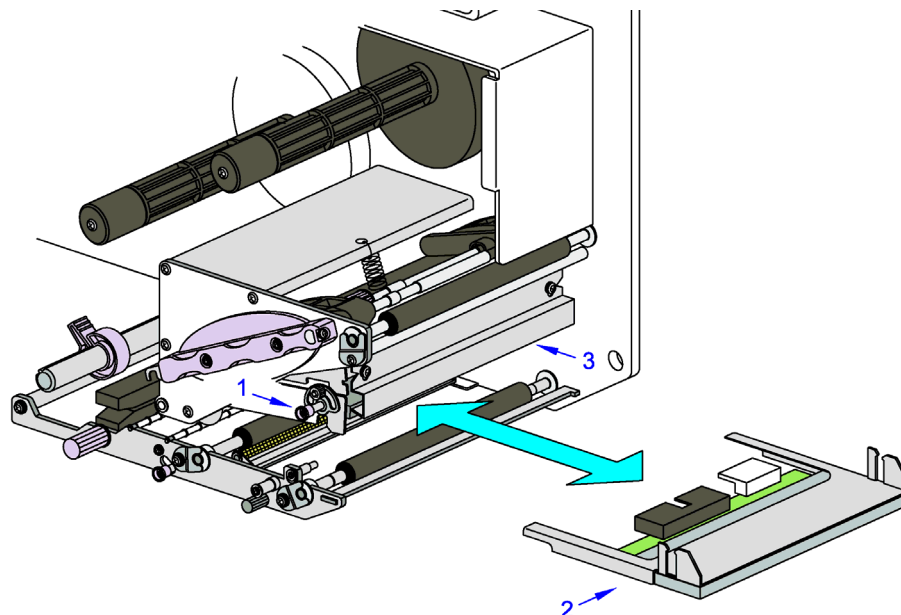

Figure 6-2, Print Head Replacement
3. Pull outward on print head release knob (1, Figure 6-2) to release defective print head (2) from print assembly (3). Disconnect the two wiring harnesses.
4. Reconnect two wiring harnesses (not shown) to replacement print head (2).
5. Pull and hold outward on release knob (1) while applying replacement print head (2) to print assembly (3).